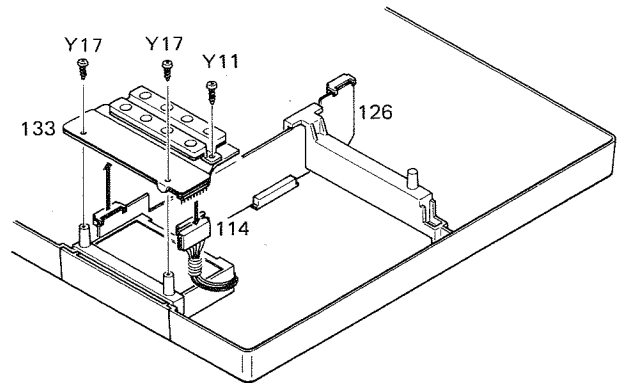

Fig. 3
C. Removing printed circuit boards (cf. Fig. 3 to 8)
1. Remove the three screws (2 marked Y17 and 1 marked Y11) and detach the 10-pin socket (114) from the connector PCB (126). Then, you can remove the FM "touch" tuning PCB (133). (cf. Fig. 3)